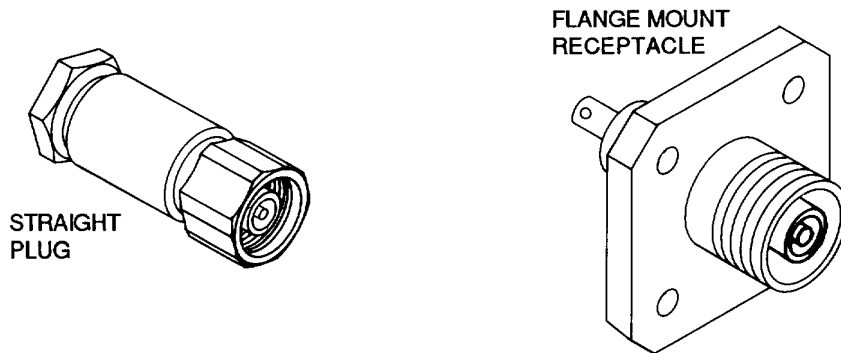

Figure 4. Typical LC Series Connectors
18. **Description.** These connectors have threaded couplings for use with large size coaxial cables. They are for use up to 1000 MHz with a maximum operating temperature of 257°F (125°C). These connectors are covered by applicable military standards (Table 3). Typical connectors are illustrated (Figure 4).